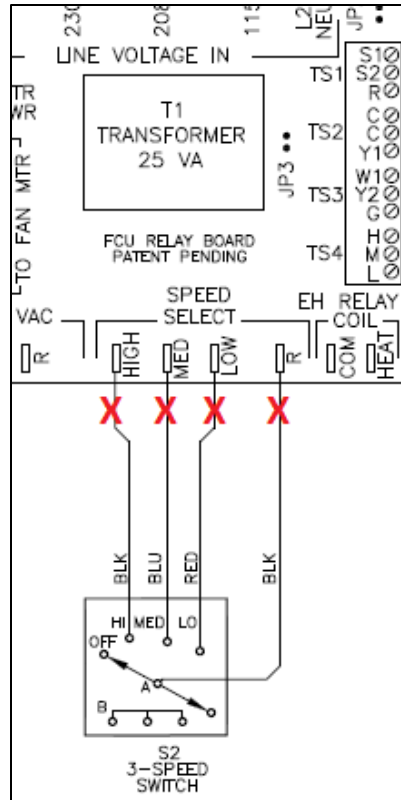

Figure 9 – Removing speed select jumper on unit with unit mounted 3-speed switch
- b. If unit has unit mounted 3-speed switch (see Figure 9)